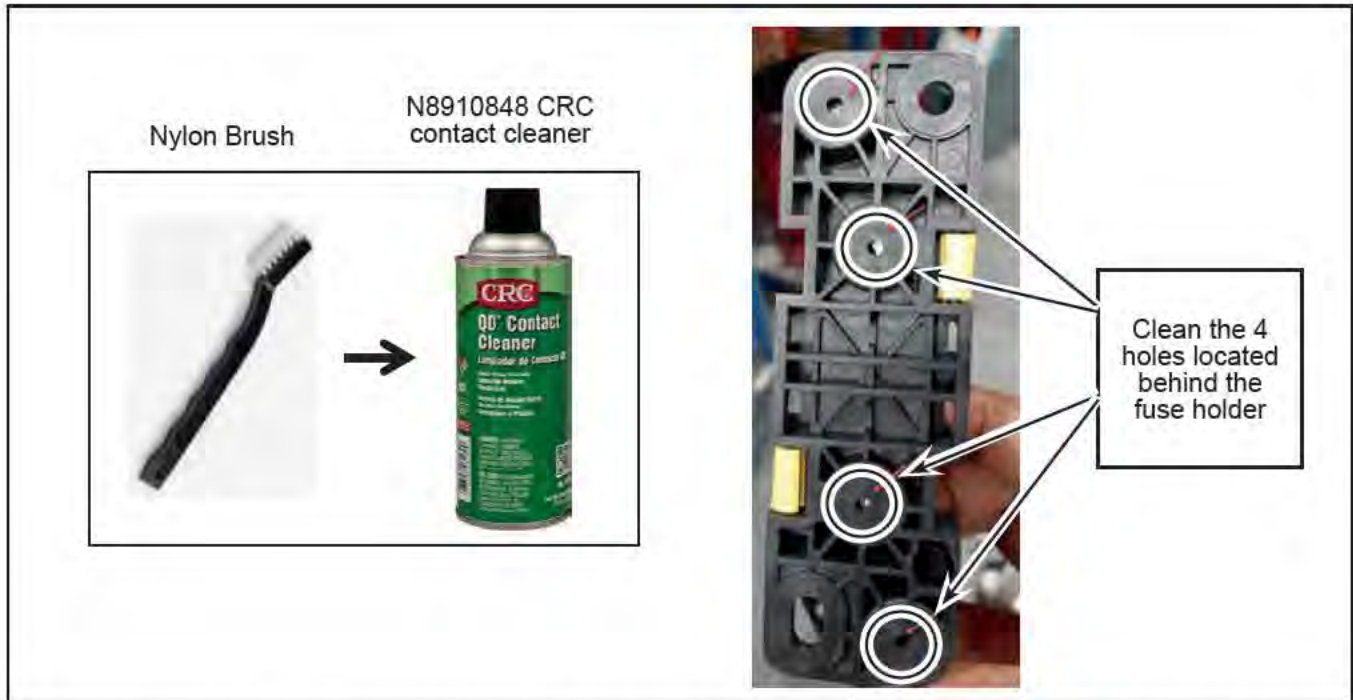

Figure 5 - Nylon Brush, N8910848 Contact Cleaner and View of the 4 Holes Located Behind the Fuse Holder
- 1.16. Clean thoroughly the fuse holder and its anchor bolts and nuts with a nylon brush and CRC Contact Cleaner (P/N N8910848) or any equivalent product. Make sure that there is no traces of corrosion or dirt on both sides of the fuse holder. Clean the back of the fuse holder and remove any dirt or corrosion in the four holes shown in Figure 5.